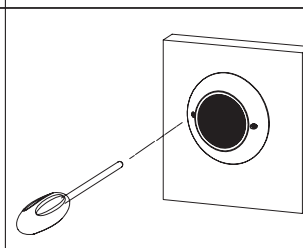

Figure 7
5. Hang the light onto the Mounting ring and tighten the screws (Figure 7).